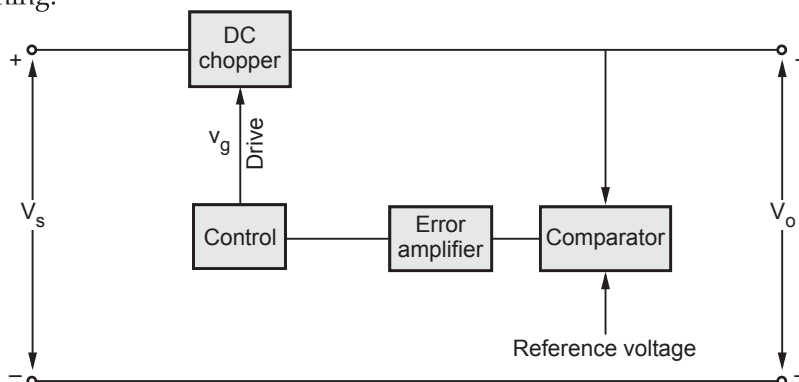

Fig. 4.6.1 Block diagram of switching mode regulator
- The switching mode regulators use dc choppers. Fig. 4.6.1 shows the block diagram of switching mode regulator. The dc chopper takes the input V_s from some unregulated supply. The chopper may use Transistor, MOSFET, IGBT, SCR or GTO for switching.